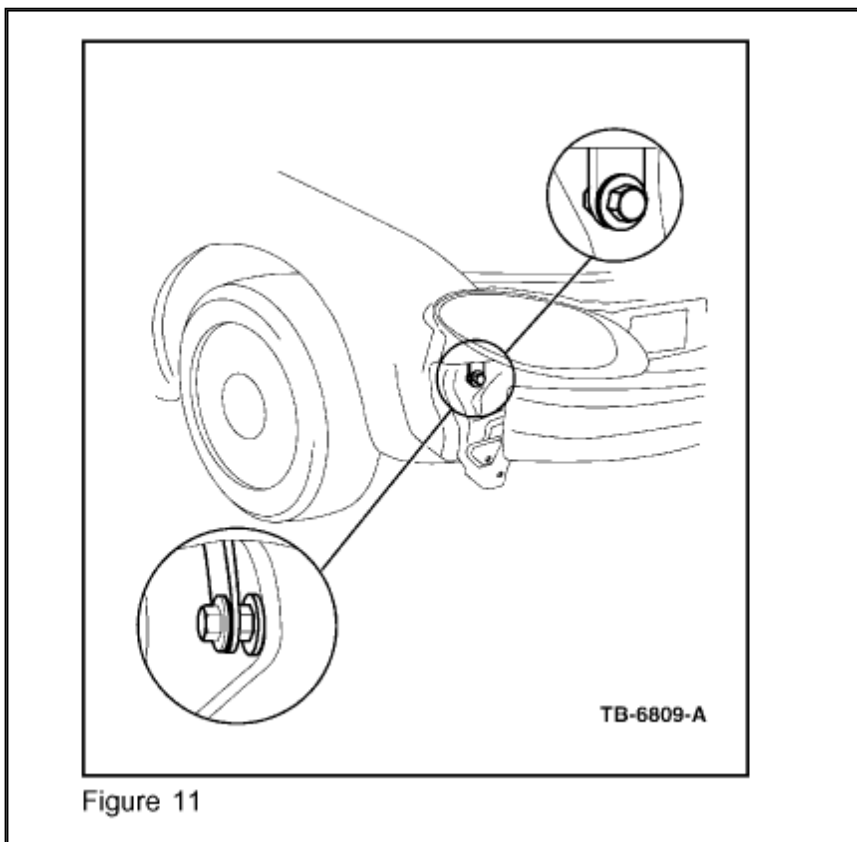

Figure 11
2. Install the grill open reinforcement lower attaching Bolts and Nut spacer (W520203-S nuts (2) and W701389-S309 bolts (2)). Torque the bolt to 5.3-7.3 N.m (46.9-64.6 lb-in.). Refer to appropriate model year Workshop Manual, Section 501-02. (Figure 11).